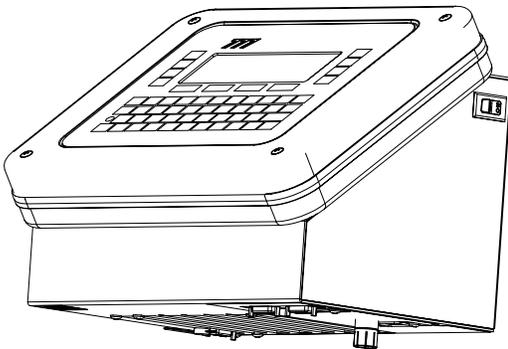

Figure No. 5
8. With the front cover assembly rotated and the footpads removed, what was the bottom of the indicator is now the back of the indicator. See Figure No. 5.